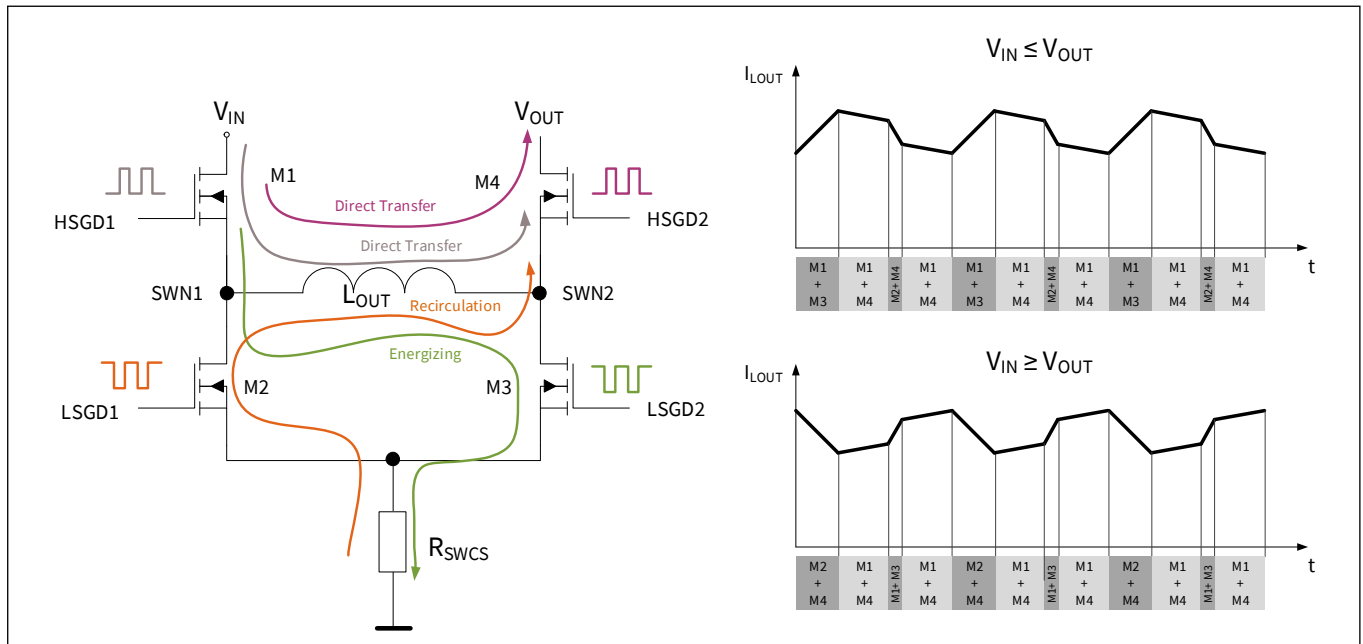

Figure 14 Buck-boost mode operation of H-bridge MOSFETs
- The waveforms for two cases of buck-boost operation, and switching behaviors are displayed in **Figure 14**